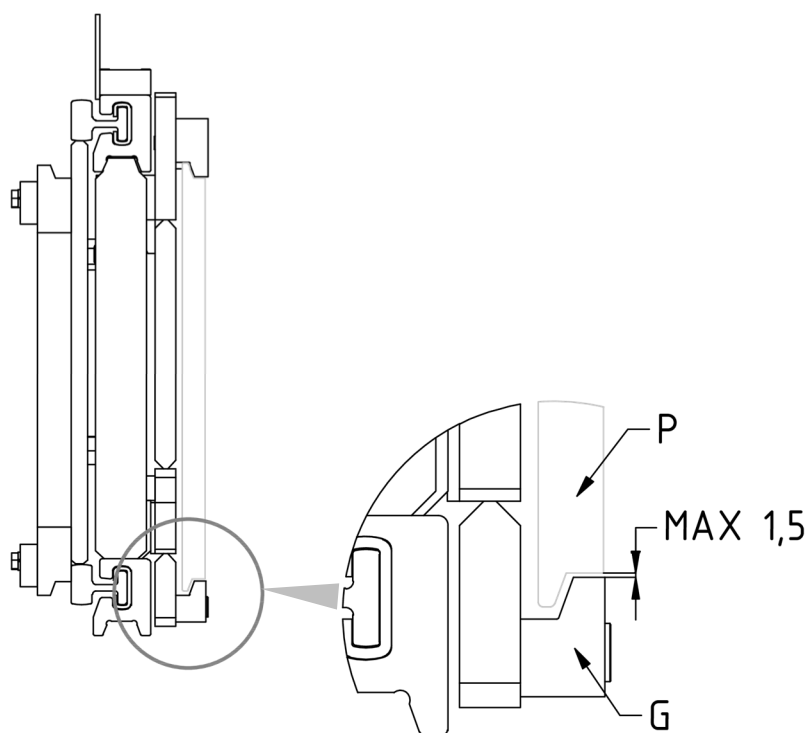

Figure 12
7. Tighten the 2 lower couplings **G** so that the body of the couplings remains coupled to the lower fork carriage plate **P** (with max. 1.5mm clearance, see detail *Figure 12*), tightening with the torque indicated in *Table 3*.
3. Check the clearance between the lower part of the fork carriage plate and the lower equipment couplings, checking that it is as shown in *Figure 12* (page 21) and, if necessary, tighten the screws that support them.